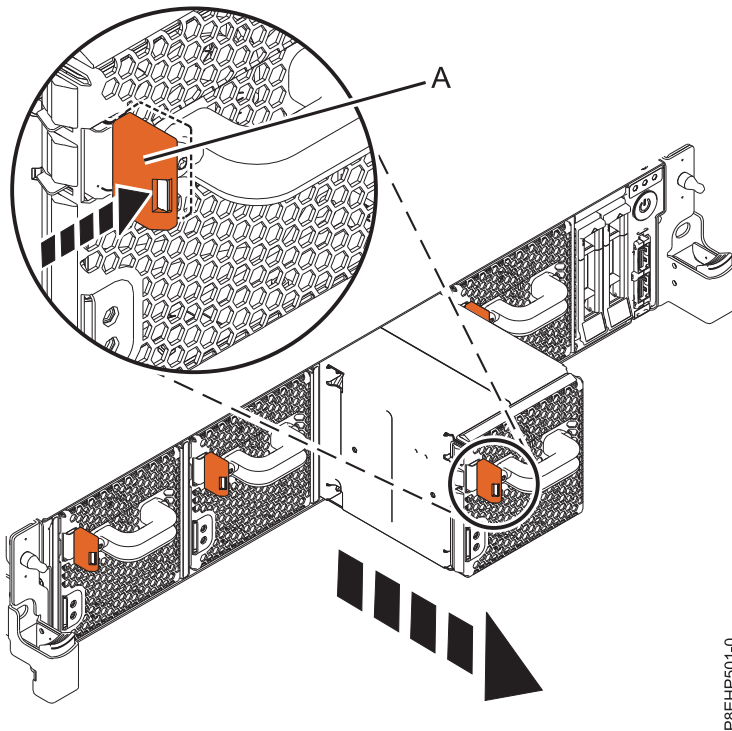

Figure 57. Removing a fan from the system
2. To unseat the fan from its position in the system, press in the terracotta locking-tab (A) as shown in Figure 57.